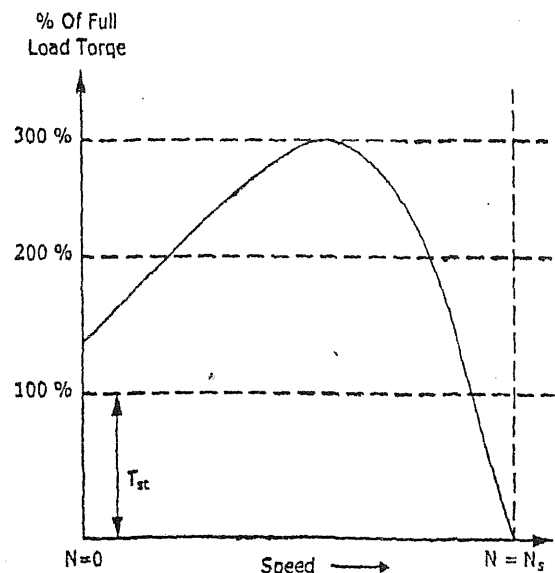

FIG. 4.23 : TORQUE SPEED CHARACTERISTIC
- The torque-speed characteristic of the resistance start single phase induction motor is shown in Fig. 4.23.